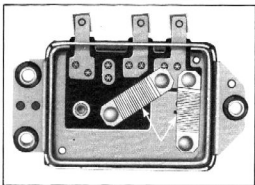

Fig. 16—Regulator Resistance Units
Two field resistance units are mounted on the regulator. However, only the lower resistance unit functions with the voltage regulator. One end of this resistance is connected to field (F) terminal of the regulator and the other end is grounded, Fig. 16.